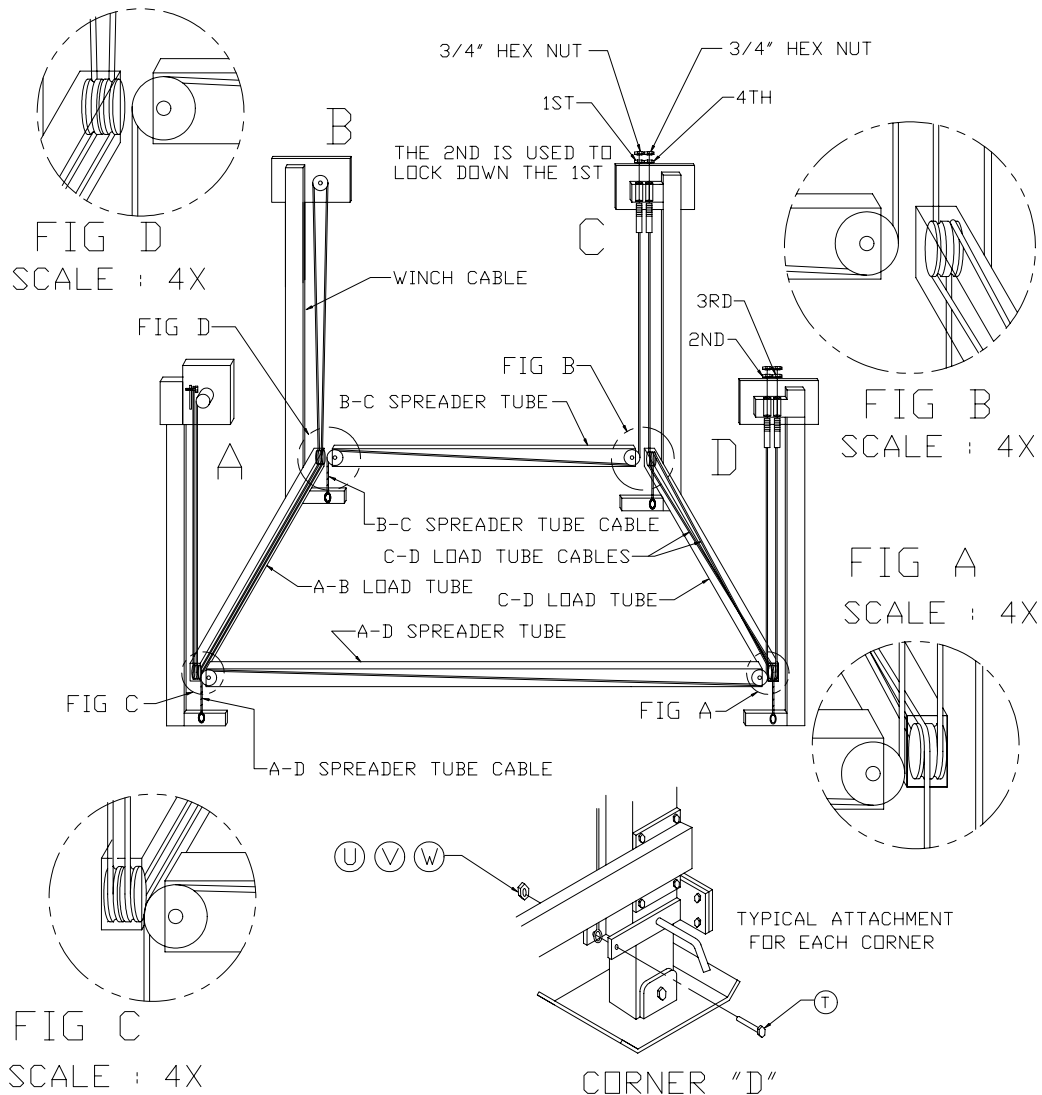

Figure 3-8.
2. Refer to Figure 3-8. The load and spreader tubes are already reeved. Fasten the cable end loops to the bracket provided at the bottom of each of the four vertical legs.
- Using a 1 1/8" open-end wrench, tighten the cable studs opposite the cable end loops in the following order. The following step numbers correspond to the step numbers shown in Figure 3-8.
1. Refer to Figure 3-8. Reeve looped end of “AB Load Tube “ cable over vertical leg “B” sheave assembly by removing bolt and sheave/bushing assembly from block. Reassemble reeved sheave/bushing assembly back into block and fasten.